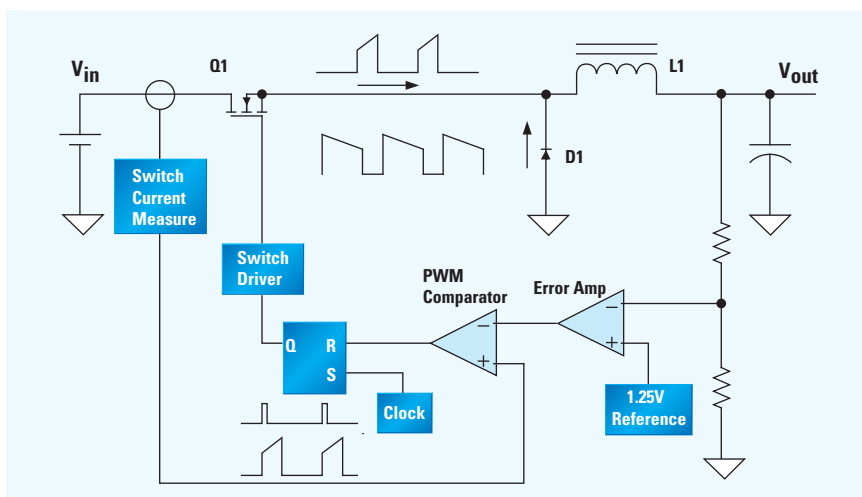

Figure 1. Buck Regulator Using Current-Mode Control
*Figure 1* shows the block diagram of a current-mode buck regulator. The output voltage is monitored and compared to a reference, with the error signal applied to the PWM comparator. The modulating ramp is a signal proportional to the buck switch current. When the buck switch is turned on, the inductor current flows through it with a slope of  $(V_{IN} - V_{OUT}) / L$ . An accurate, fast measurement of the buck-switch current is necessary to create the PWM ramp signal.